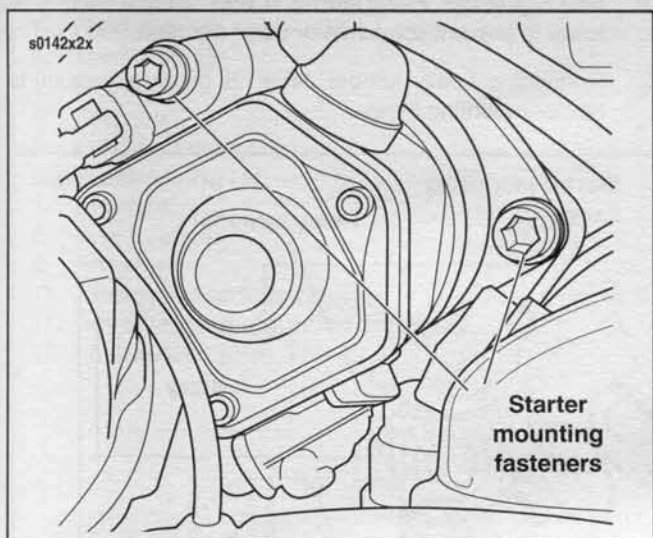

Figure 5-5. Starter Mounting
- See Figure 5-5. Remove the starter mounting Allen head bolts and washers.
- See Figure 5-5. Install the two starter mounting bolts and washers. Tighten mounting bolts to 13-20 ft-lbs (18-27 Nm).